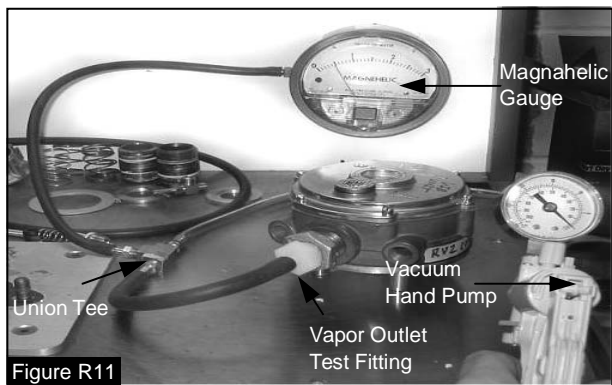

Figure R11
1. Connect the vacuum pump, the Magnehelic gauge and the regulator vapor outlet to the Union Tee fitting (Figure R11). Make sure there is no leakage at any of the fittings.